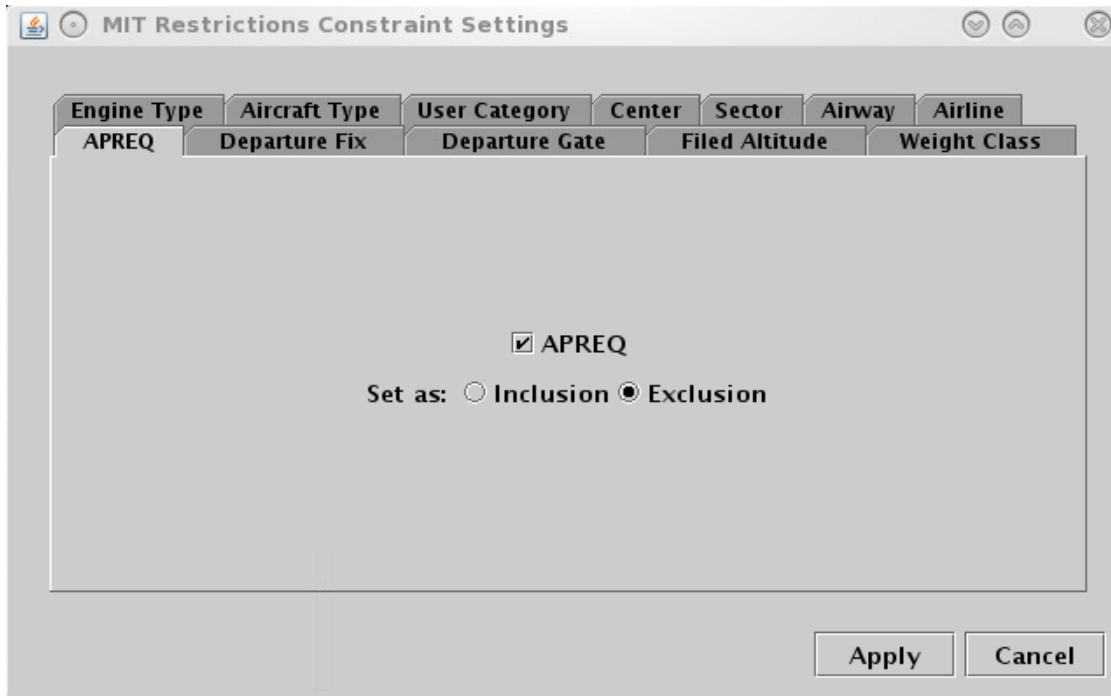

Figure 127. Set Inclusion/Exclusion in the APREQ constraint window.
**Step 3:** Select the parameters desired for the constraint. For example, In the MIT constraint tab (Figure 127), to include or exclude an APREQ, select the “APREQ” box, and either “inclusion” or “exclusion”. Click “Apply”.